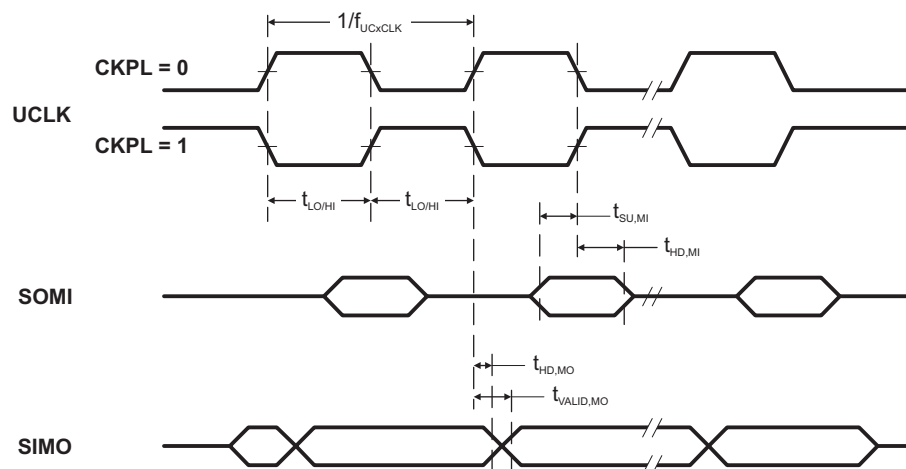
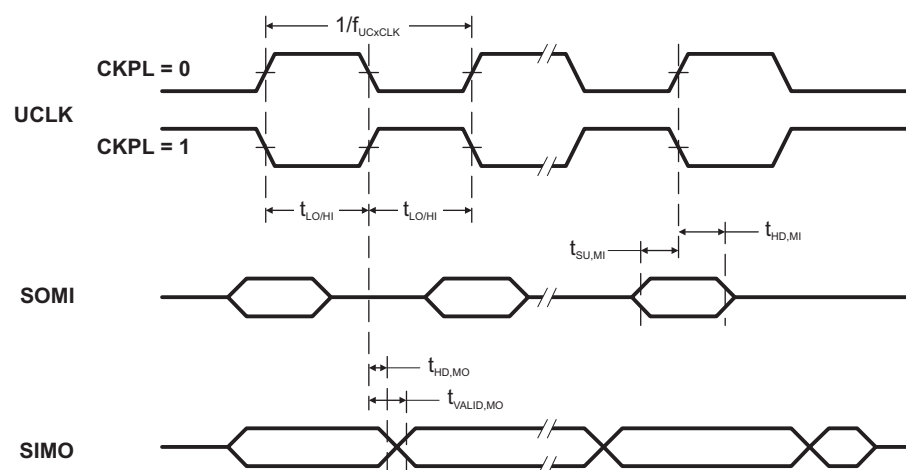

Figure 13. SPI Master Mode, CKPH = 0
Figure 14. SPI Master Mode, CKPH = 1
(see Note (1), Figure 13 and Figure 14)
- (2) Specifies the time to drive the next valid data to the SIMO output after the output changing UCLK clock edge. See the timing diagrams in Figure 13 and Figure 14.
- (3) Specifies how long data on the SIMO output is valid after the output changing UCLK clock edge. Negative values indicate that the data on the SIMO output can become invalid before the output changing clock edge observed on UCLK. See the timing diagrams in Figure 13 and Figure 14.
- (2) Specifies the time to drive the next valid data to the SOMI output after the output changing UCLK clock edge. See the timing diagrams in Figure 13 and Figure 14.
- (3) Specifies how long data on the SOMI output is valid after the output changing UCLK clock edge. See the timing diagrams in Figure 13 and Figure 14.